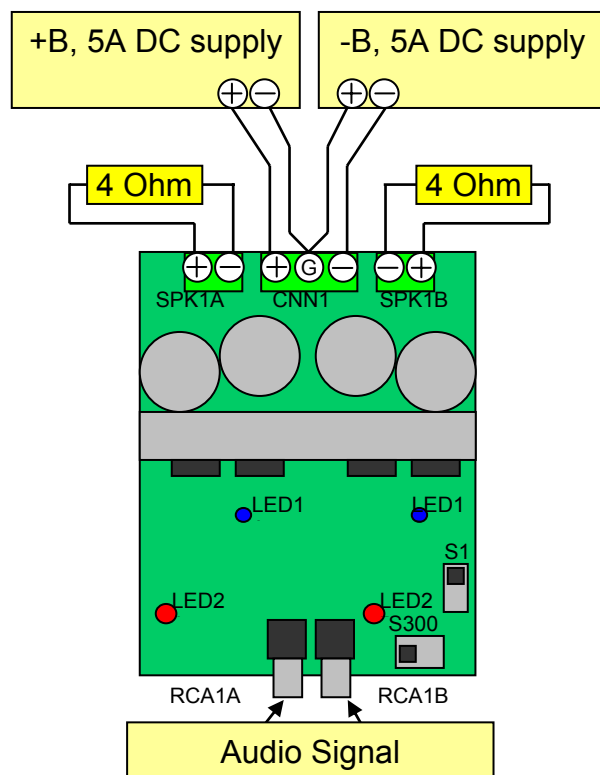

Fig 1 Typical Test Setup
2. Connect 4 Ω -200 W dummy loads to output connectors, SPKR1A and SPKR1B, as shown on Fig 1.
5. Connect the dual power supply to CNN1, as shown in Fig 1.